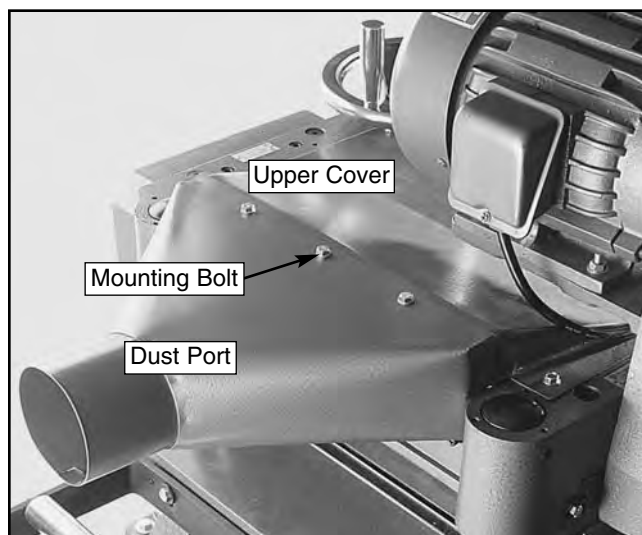

Figure 9. Dust port assembly.
2. Use three M6 - 1.0 x 12mm hex bolts and nuts and six washers to secure the dust port to the planer upper cover. See **Figure 9**.